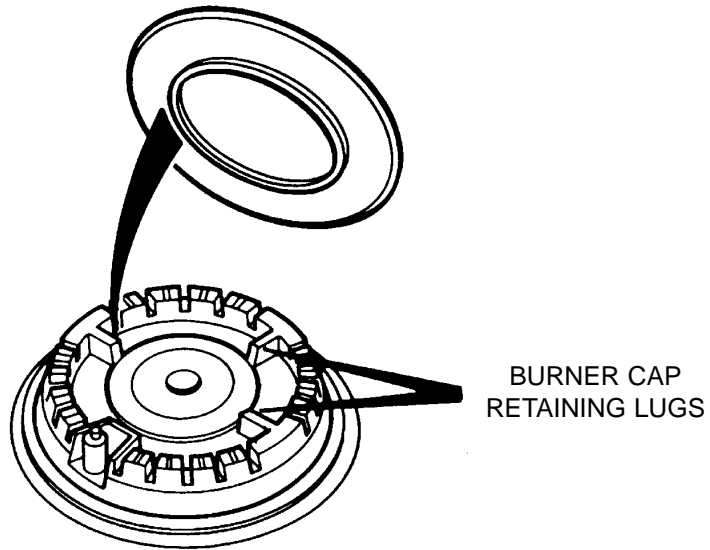

Fig. 6A
- After cleaning, be sure all parts are dry. When fitting the burner cap and burner head, make sure that the hole in the burner head is correctly located over the ignition electrode. (See Fig. 6A, 6B, 6C), and that the burner cap is sitting correctly on the burner head.